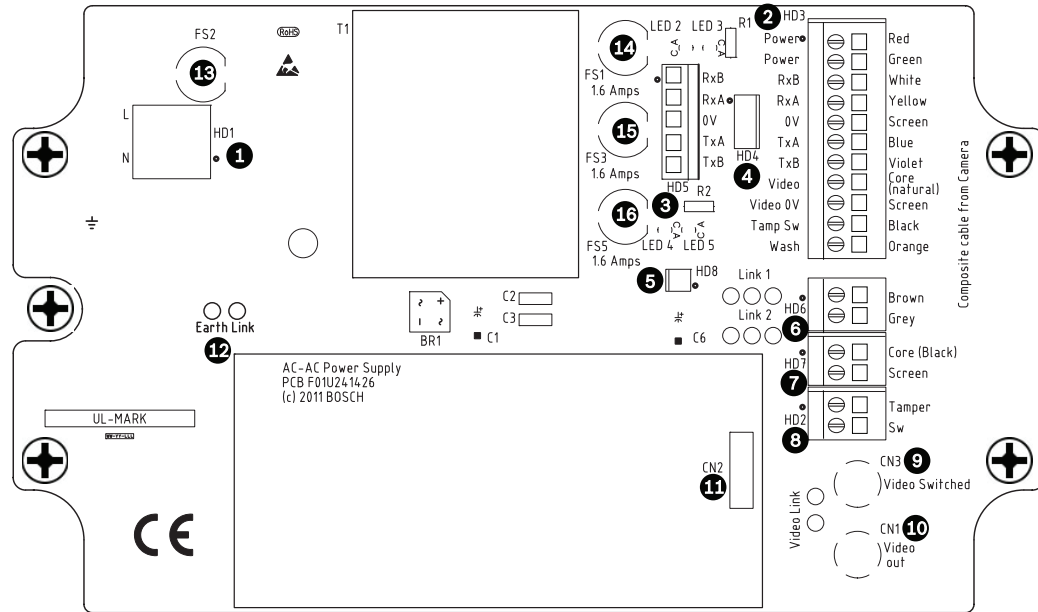

Figure 4.3 Layout of MIC-240PSU-2 and MIC-115PSU-2
The MIC PSUs for MIC612 cameras have four (4) off 20 mm fuses (numbers 13 - 16 in *Figure 4.3*) in fuse holders. The ratings for these fuses are fixed on the low voltage secondary side but change with input voltage on the high voltage primary side. The following table shows the fuse values that should be fitted to provide proper protection for the MIC-240PSU-2 and MIC-115PSU-2 power supplies. **Note:** FS 4 does not exist.